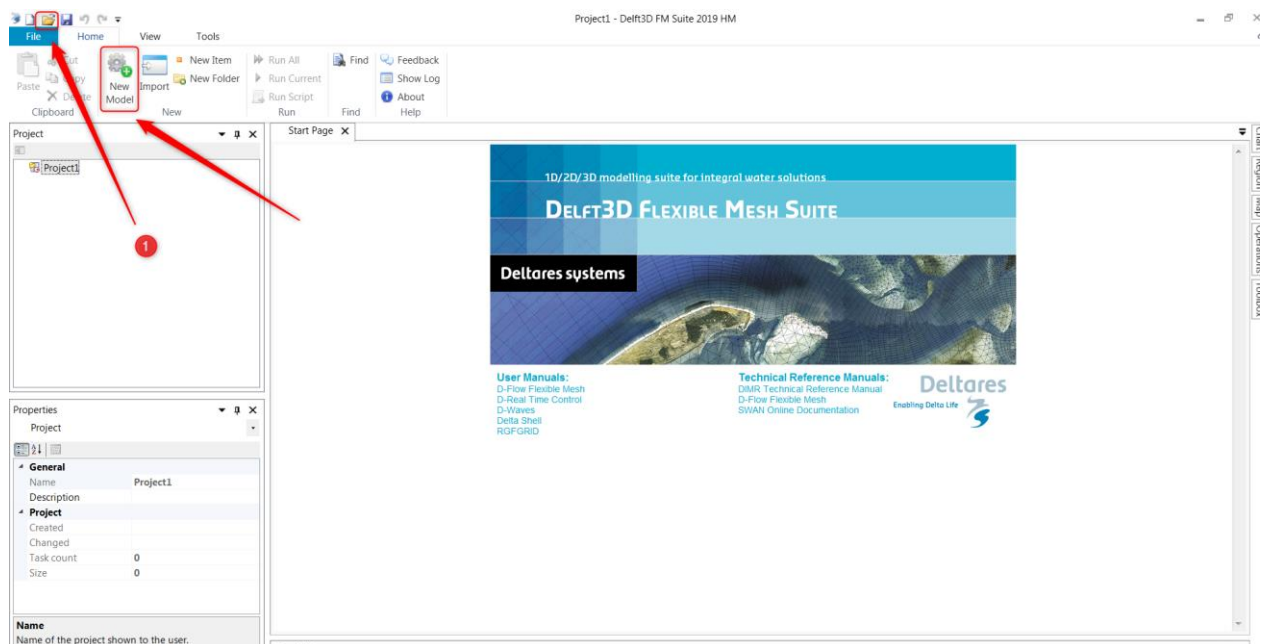

Figure 2.1 Upload a model or create a new model
- 1) Go to open folder as shown in Figure 2.1 with number (1).